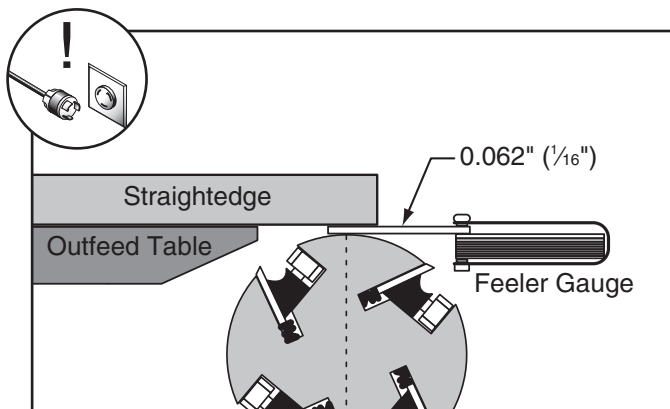

Figure 53. Using feeler gauges to set outfeed table height.
5. Place the straightedge on the outfeed table so it hangs over the cutterhead, and lower the outfeed table until the straightedge is 0.062" ($\frac{1}{16}$ ") above the cutterhead body, as determined by using the feeler gauges (see **Figure 53**).